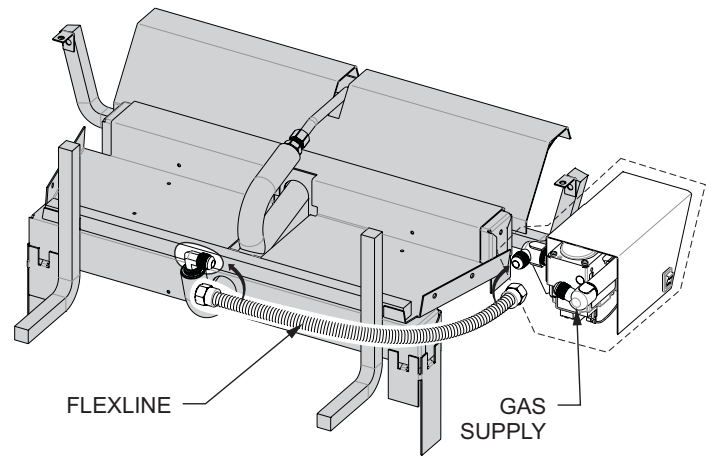

Figure 4
9. Attach flexline from outlet of gas valve to the elbow/orifice holder on the burner. The valve must be placed on the same side of the burner as the elbow/orifice holder. See **Figure 4**.